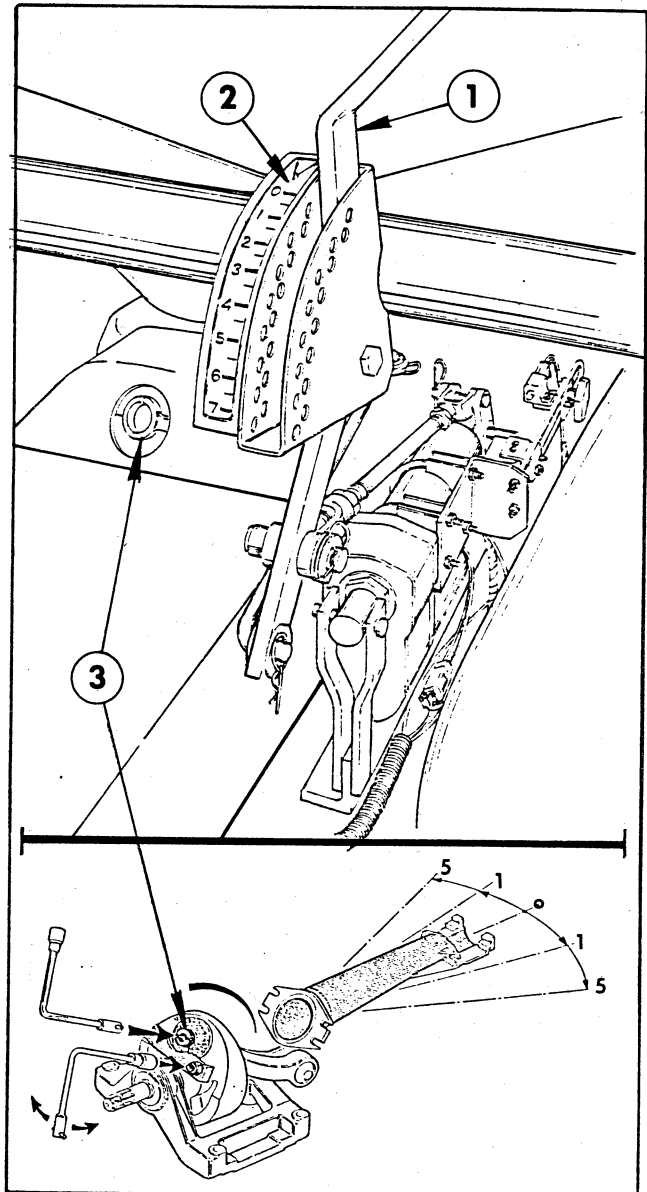

Figure 6
1. Turn the Spreader Sprocket by hand, until the arc adjuster appears in the opening in the Spreader, as shown in Figure 6